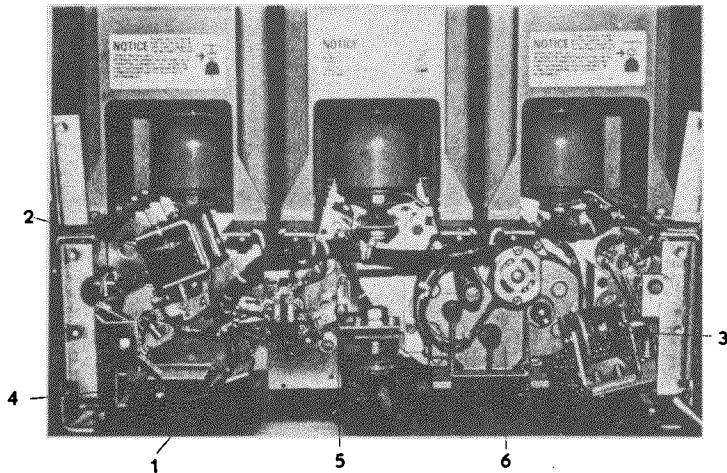

Fig. A7 Front View — Front Angle Plate Removed Electrical Components
Remove the breaker front plate to gain access to the 52Y relay. Remove the wires to the 52Y relay, (1) Fig. A7, (and resistor if used). Remove the relay by removing the two bolts which hold it to the mounting plate.
With the closing spring discharged and the breaker open, remove the breaker front angle plate to gain access to the spring charging motor, (6) Fig. A7.
Remove the breaker front cover, and Y relay mounting plate and the front caster wheel for access to the auxiliary switch. Remove the wires and metal jumpers from the auxiliary switch, (5) Fig. A7.